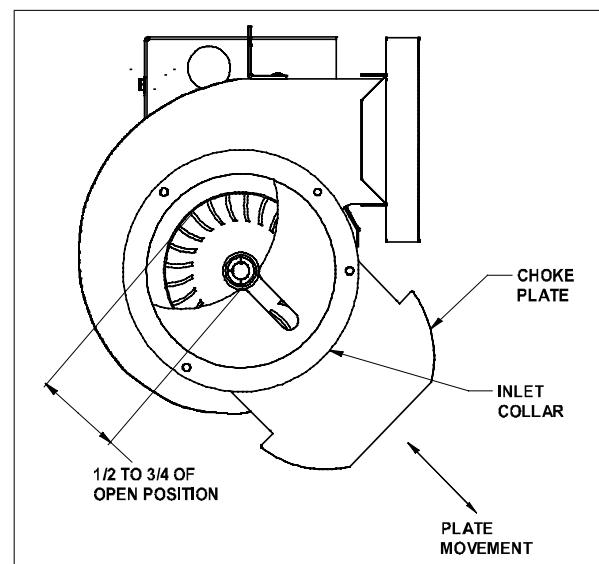

Figure 5
1. To adjust the power venter air flow, open the choke plate  $\frac{1}{2}$  to  $\frac{3}{4}$  of the way open (See Figure 5). Follow appliance manufacturer's procedures for starting the heating appliance. Then adjust the thermostat to call for heat.